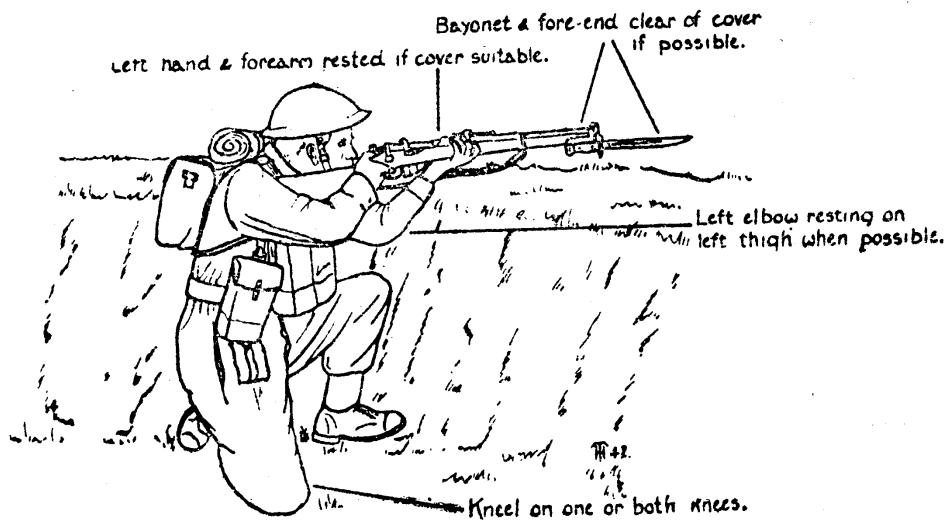

Fig. 11
- ii. *Kneeling and sitting:-* "Positions of observation" "Behind cover" and "Watch the front" will be carried out in exactly the same way as in Lesson 7, except the positions must be modified to suit the cover. The main point is to avoid over exposure. On the "Range" being ordered, or, if acting individually, set the sights to the estimated range and adopt the "Position of readiness". Kneel on the right knee, keeping it out to the right, and with the body supported on the right heel, the left elbow resting on the left thigh, if possible. It may be more comfortable to kneel on both knees or even adopt a sitting position, depending on the nature of the cover (*see Fig. 11*).